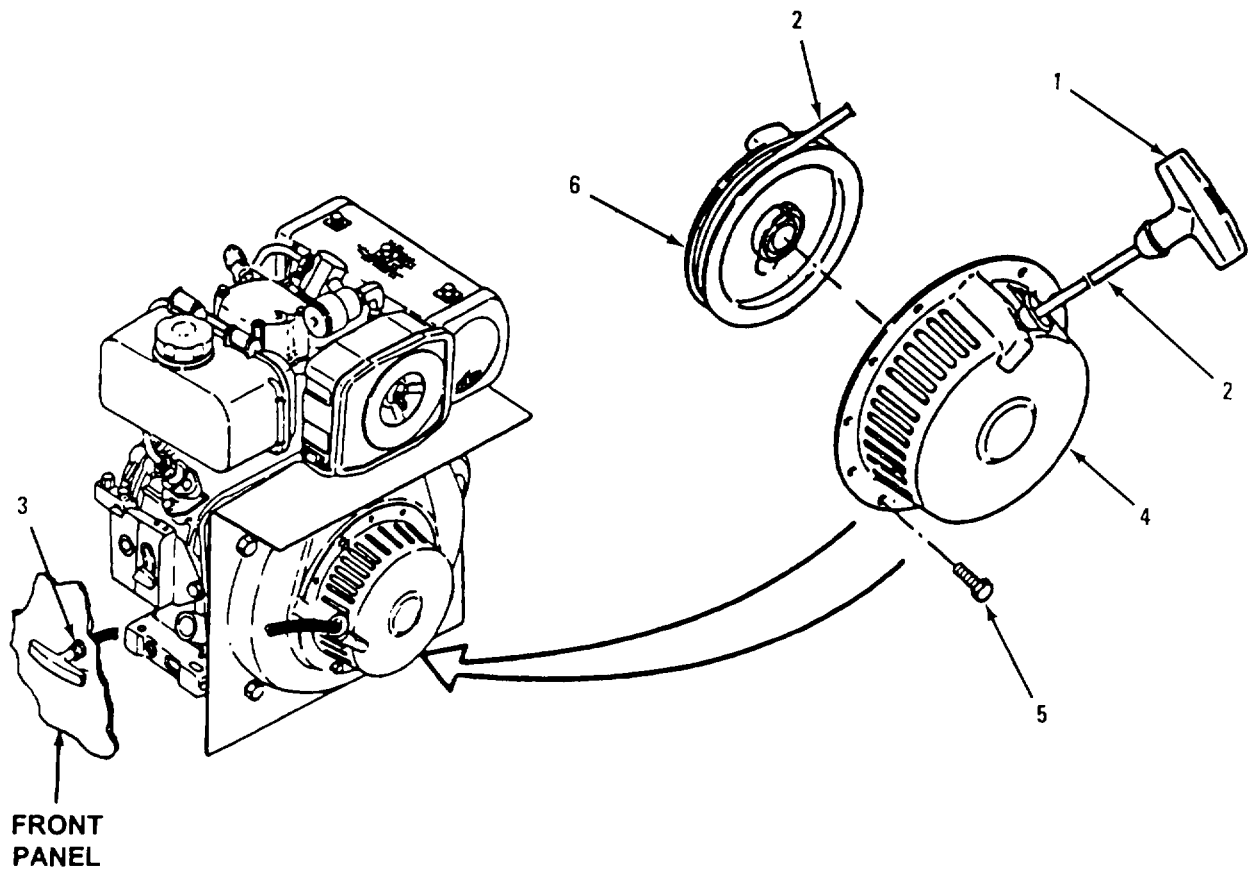

Figure 4-20. Recoil Starter Removal
a. Removal. (Refer to Figure 4-20)
- (1) Pull rope T-handle (1) slowly, turning the crankshaft until approximately two feet of pull rope (2) is exposed.
- (2) Grasp the rope firmly and pull the knot approximately six inches out of the T-handle (1).